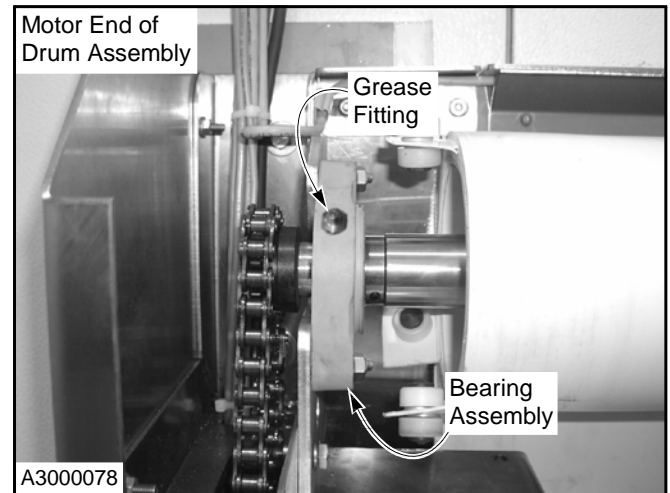
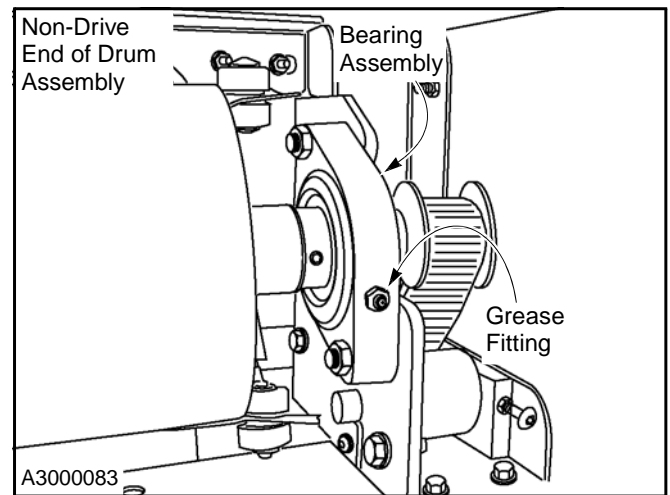

Figure 13
Figure 14
3. **Lubricate Bearing Assemblies:** The head/fabric roll assembly is supported at each end by a flanged bearing assembly. Each bearing assembly has a grease fitting to make it possible to lubricate the sealed bearings in the assembly. (See Figure 13 and Figure 14.)